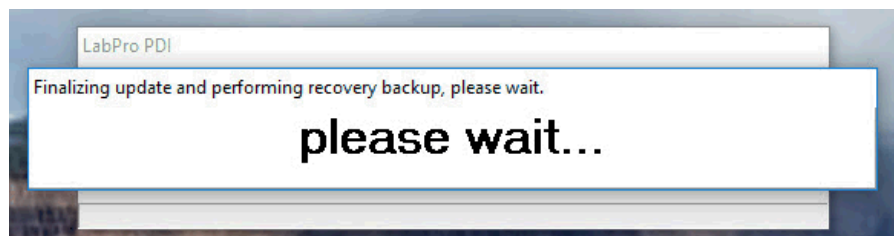

Figure 9: Finalizing Update
8. A message displays “Finalizing update and performing recovery backup, please wait...” (See Figure 9).